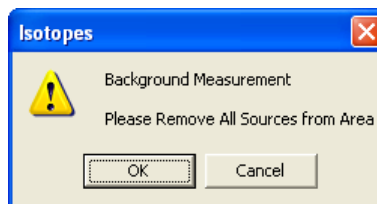

Figure 6-9
8. When the procedure is started, the screen appears as shown in Figure 6-9.